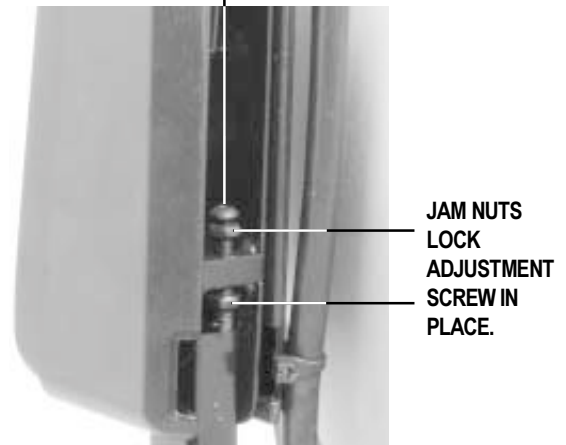

Figure 9. Armrest Angle
2. Use a wrench to loosen the jam nuts. See figure 9.